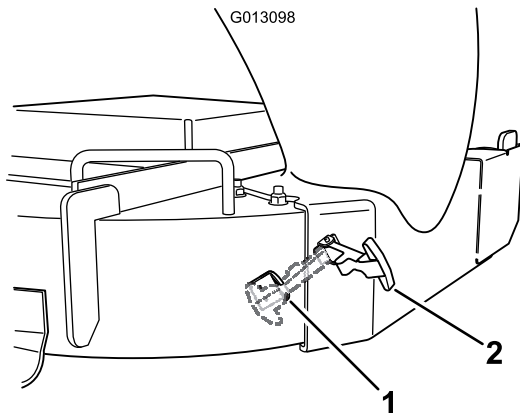

Figure 19
- Hook the flexible latch on the chute to the retaining clasp welded to the side wall of the mower deck (Figure 19).